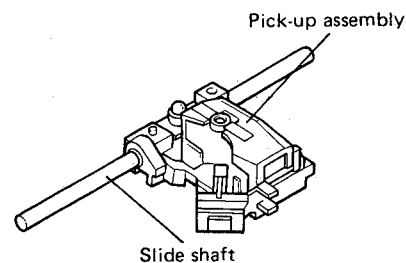

Fig. 20
11. Take out the slide shaft and PICK-UP assembly. (Fig. 20)